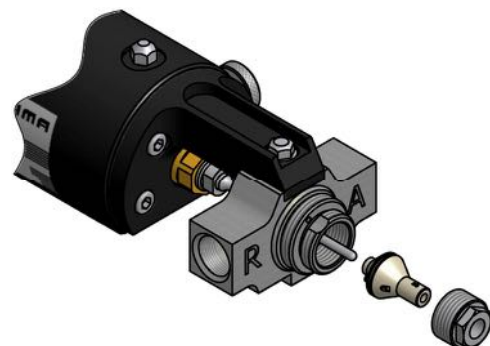

Figure. 11
12. Remove the mixing module from its housing and clean it with gun-cleaning solvent. If the product holes are blocked, clean them with the drills supplied along with the module (see **Figure. 11**).
9. Unscrew the module tightening nut by turning it anti-clockwise (see **Figure. 11** page 12).
10. Remove the mixing module from its housing and clean it with gun-cleaning solvent (see **Figure. 11** page 12).